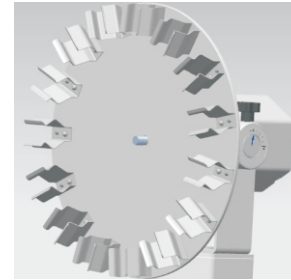

figure 1.
1. Insert the stud on the rotation shaft into the center hole of the tray and make sure the tray is firmly touching the fixing block of the rotary plate, as shown in figure 1 (indicate on next page 3-6).